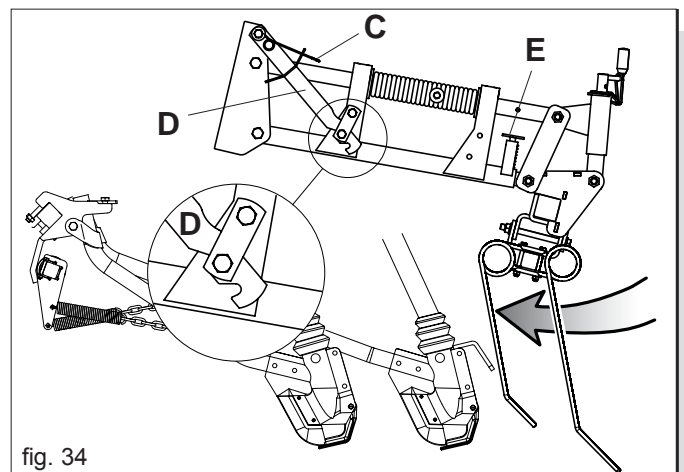

fig. 34
For road transport, the teeth of the seed covering harrow must be turned downwards (Fig. 34).
- 1) Position the spring (C) as shown in Figure 34.
- 2) Lift the seed-covering harrow so as to hook the lever (D Fig. 34).
- 3) Lift the pin (E Fig. 34) and slide the harrow to the next automatic hook of the pin (E Fig. 34).